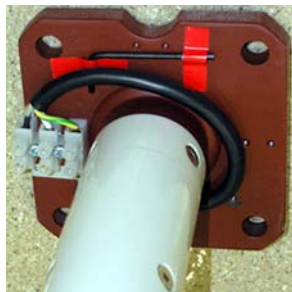

Figure 2-6 Ceiling Pedestal
- 2.) The pedestal cover is attached with screws to allow the cover to be lowered for installation. If a power cord is present, it must be cut before installing the pedestal. See Figure 2-6.